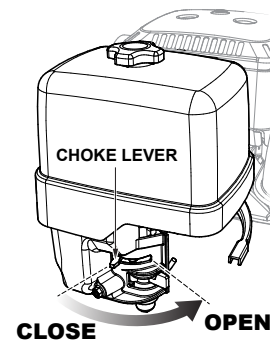

Figure 12. Engine Choke Lever (Open)
4. Place the choke lever (See Figure 12) in the **OPEN** position if starting a warm engine or the temperature is warm.